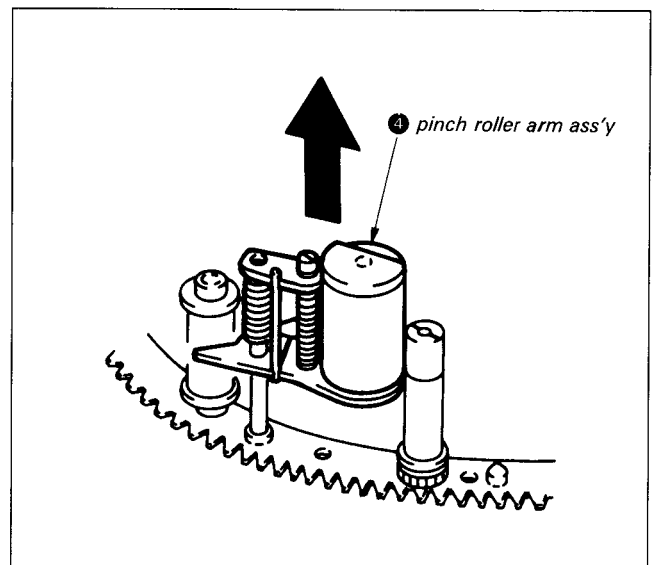

Fig. 7-17.
- 5) Remove pinch roller arm assembly ❹ in the direction of arrow. (See Fig. 7-17.)